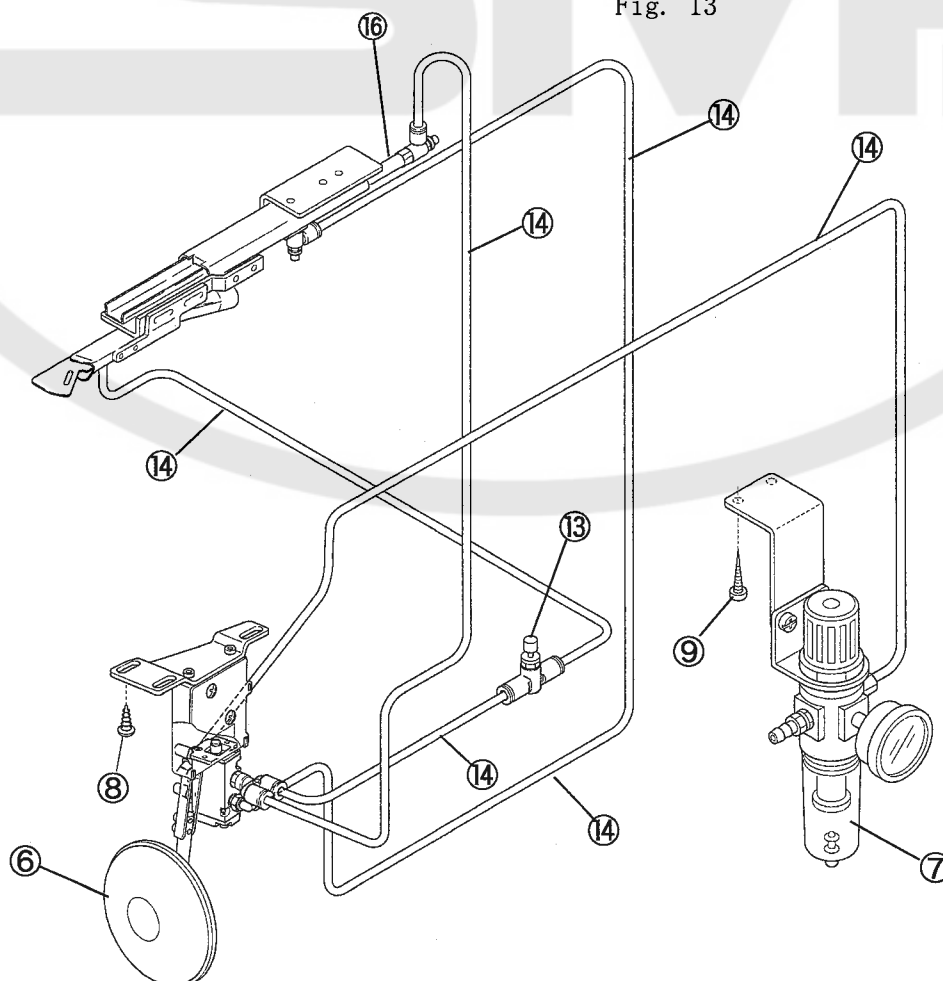

Fig. 14
- (1) Set the device ④ horizontally to the machine frame with two screws ⑤.
- (2) Set the toggle switch ⑥ with two screws ⑧ and air regulator ⑦ with two screws ⑨ under the machine table. (Fig. 14)
- (4) Connect the air pipe ⑭ referring to Fig. 14.